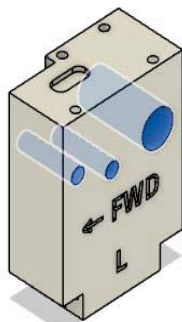

Figure 0-10
- 3 holes on the side face of the left block. Refer to Figure 0-10